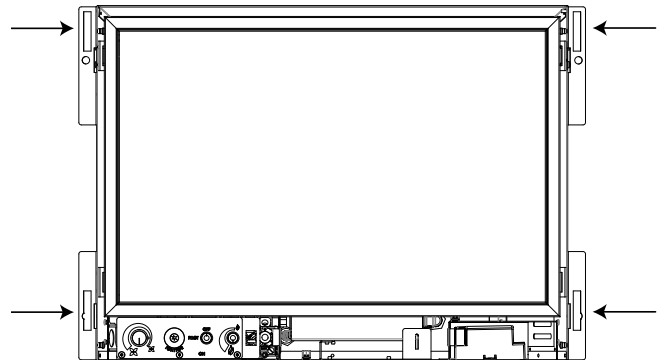

Figure 43: Hook Tab Locations.
1. Lift the face upright in front of the fireplace with the four (4) hooks pointing towards the tabs (see Figure 43) on the fireplace.